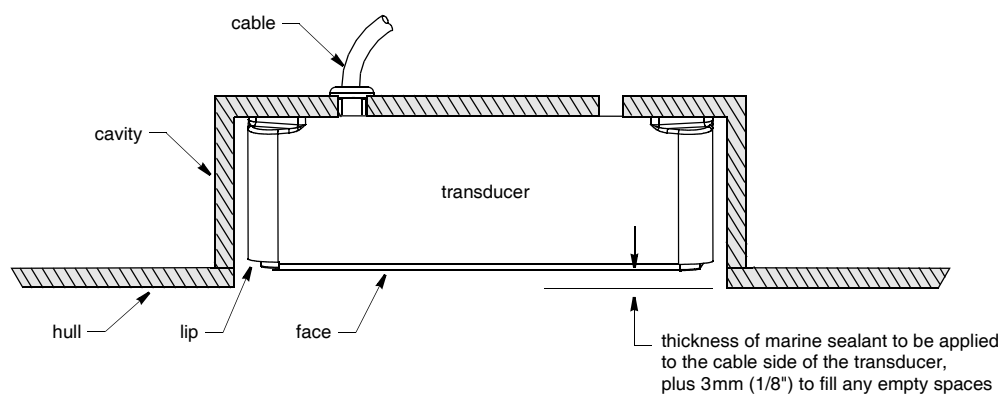

Figure 2. Dry fitting
3. From outside the hull, thread the transducer cable through the hole in the mounting cavity (Figure 2). Push the transducer into the cavity as far as possible.
1. To ensure that the marine sealant will adhere properly, on the hull sand the area around the hole, inside and outside. On the transducer, sand all the surfaces that will contact the hull. Sand the lip of the transducer (Figure 2). *Do not sand the face.* Remove all dust using a tack cloth. *Do not use alcohol on the transducer.*